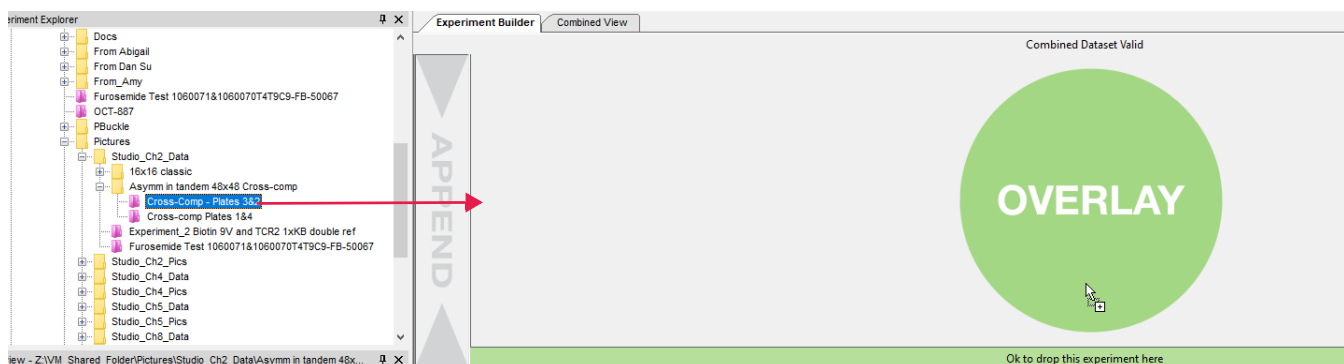

Figure 2-43: Dragging Second File to Segment Window
2. Select the file you want to overlay onto the existing experiment file and drag it to the **OVERLAY** area of the Segment box. Release the mouse when the OVERLAY area turns green (Figure 2-43).